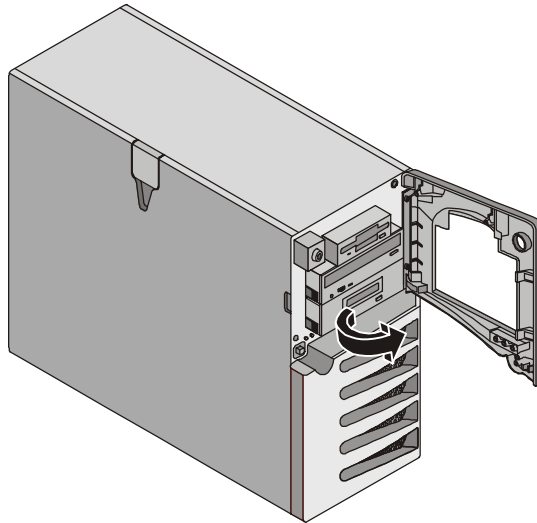

Figure 3-2. Upper Bezel (Open)
- The key lock, power button, and system and LAN status indicators are located within the front upper bezel. See Figure 3-2.
3. Hold the bezel at the notch on the side panel and swing the bezel open to the right. See Figure 3-2.